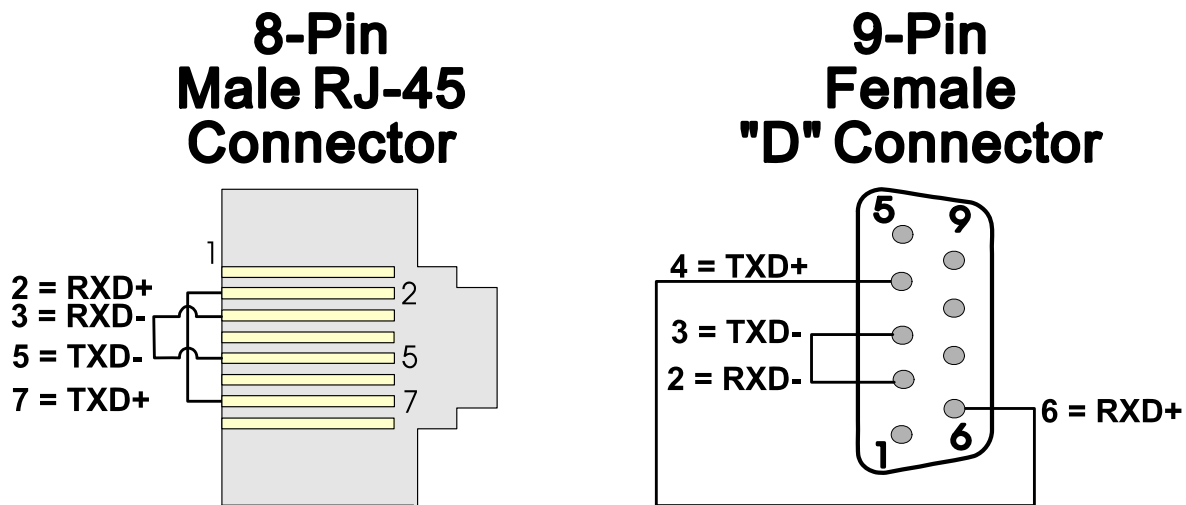

Figure 3-11 - RS-485 Loop-back Plugs
- Port 4 set-up for RS-485 use a 9-pin female D-type loop-back plug (see Fig. 3-11).
- Port 3 set-up for RS-485 use an 8-pin male RJ-45 loop-back plug (see Fig. 3-11).